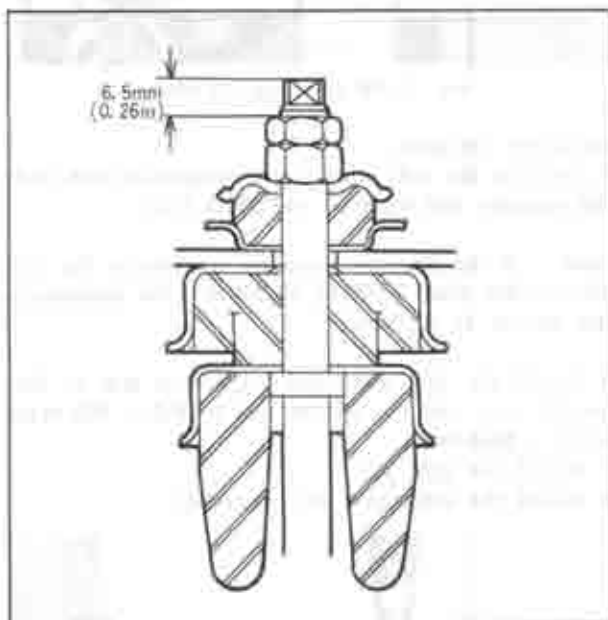

Fig. 13-22 Tightening upper nuts
**Note:** Tighten the shock absorber nuts to the dimension shown in Fig. 13-22.